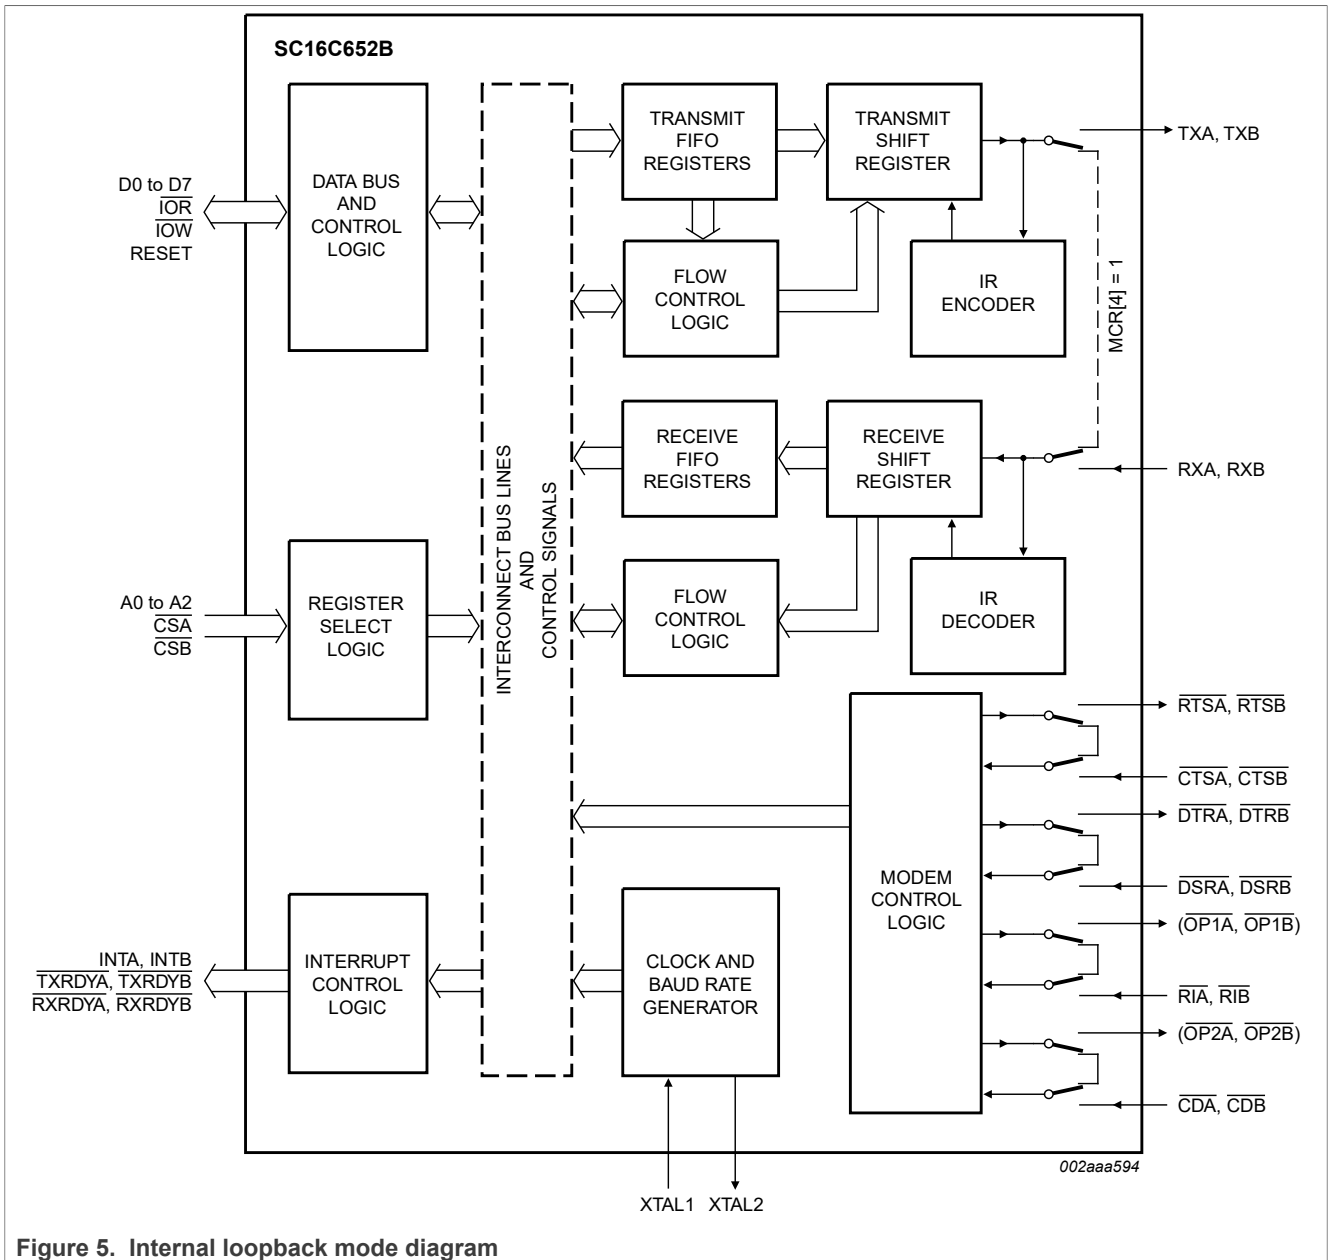

Figure 5. Internal loopback mode diagram
The internal loopback capability allows on-board diagnostics. In the loopback mode, the normal modem interface pins are disconnected and reconfigured for loopback internally (see Figure 5). MCR[3:0] register bits are used for controlling loopback diagnostic testing. In the Loopback mode, the transmitter output (TX) and the receiver input (RX) are disconnected from their associated interface pins, and instead are connected together internally. The CTS, DSR, CD, and RI are disconnected from their normal modem control inputs pins, and instead are connected internally to RTS, DTR, MCR[3] (OP2) and MCR[2] (OP1). Loopback test data is entered into the transmit holding register via the user data bus interface, D[7:0]. The transmit UART serializes the data and passes the serial data to the receive UART via the internal loopback connection. The receive UART converts the serial data back into parallel data that is then made available at the user data interface D[7:0]. The user optionally compares the received data to the initial transmitted data for verifying error-free operation of the UART TX/RX circuits.